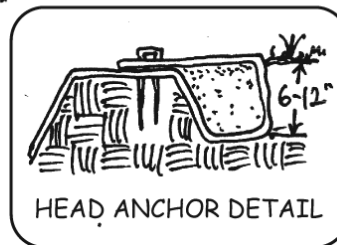

Figure 33. Proper installation of an Erosion Control Blanket.
- » Secure the end of the ECB in the anchor trench using staples or pins at one-foot intervals (Figure 33). Backfill the trench and compact the soil. Seed the trench and fold over and secure the end flap of the roll, again using staples or pins at one-foot intervals.